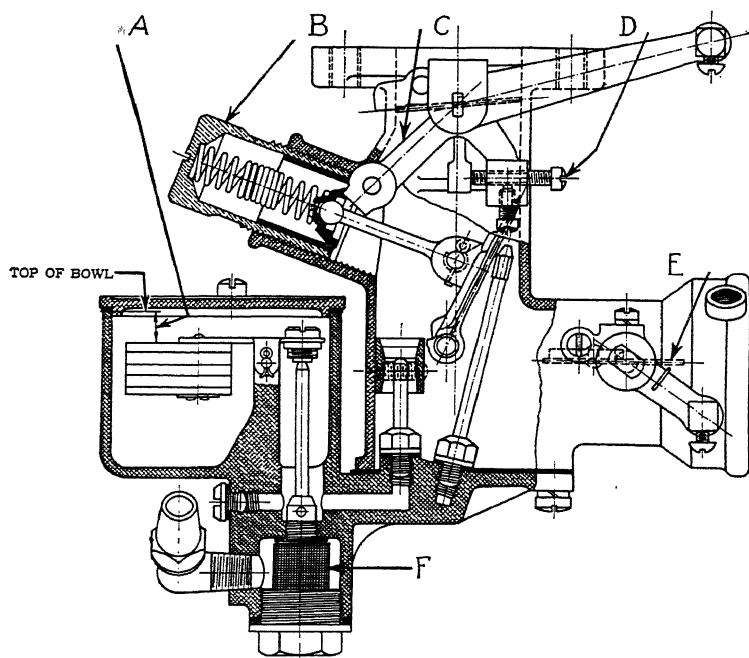

Fig. 87. Service Drawing of Model "A" Marvel Carburetor
**Servicing Model "A" Marvel Carburetor.** *Preliminary Adjustment.* Preliminary idle adjustment is secured by adjusting the brass sleeve *B*, Fig. 87. This is the air screw and by turning it outward a few notches at a time, it will be noted that the engine starts to slow down and falter. After this is noted, proceed to adjust further by turning the air-screw sleeve *B* inward a few notches at a time until a smooth and even operation of the engine is secured. As in all cases of carburetor adjustment, it is absolutely necessary to have the engine thoroughly warmed up before proceeding with this adjustment. If the adjustment is screwed in too far, the engine will start to roll and give other signs of being too rich. When the best idle speed with this adjustment is secured, it should be left at this point.
*Adjusting Float Height.* If flooding occurs or if for any other reason it appears evident that the float height and the gasoline level within the float chamber are not correct, the gasoline level should be checked. The correct setting for the float is  $\frac{1}{8}\frac{1}{2}$  inch from the top of the bowl to the top of the float with the float valve in its seat. Measure as indicated at *A* in Fig. 87. When inspecting the float, if there is evidence of the failure of the float or if it seems loggy, it should be replaced with a new one and then the dimensions given should be secured.
*Choker Valve Adjustment.* Much trouble oftentimes is encountered in carburetor adjustments which may be traced to an ineffective choker valve. This is not usually the fault of the carburetor but may be due to faulty operation of the choker-valve operating mechanism. In some cases dirt, dust, or rust prevents the proper operation of the control-valve mechanism. Two things are essential. The first is that when the choker is pulled, the butterfly valve must close fully. The second is that when the choker is pushed in, the choker valve must open fully, as shown by the dotted lines indicated by the arrow *E* in Fig. 87.